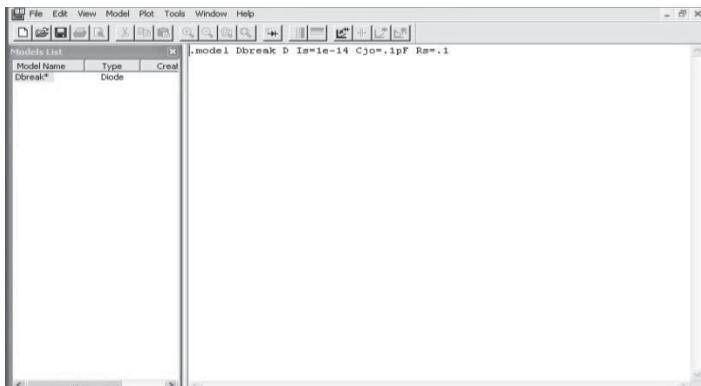

FIGURE 8.90 Default model parameters for the Zener diode.
- A model window with specific parameters will appear, as shown in Figure 8.90.